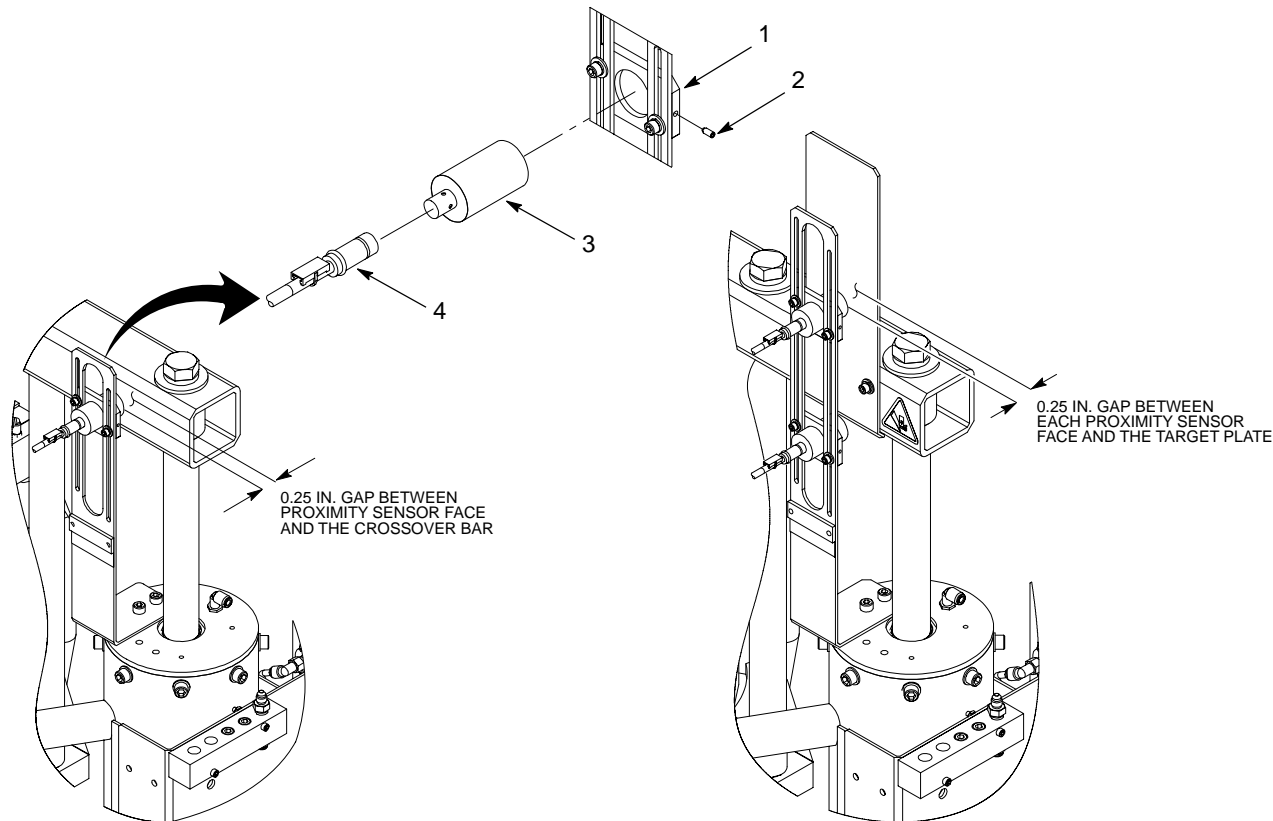

Figure 2 Replacing a Proximity Sensor
1. See Figure 2. Disconnect the control cable (4) from the proximity sensor (3).
2. Remove the setscrew (2) securing the proximity sensor (3) to the adjustment plate (1). Remove the proximity sensor from the adjustment plate.
3. Screw the new proximity sensor into the adjustment plate (1) until there is a 0.25 in. gap between the face of the proximity sensor and the crossover bar or target plate.